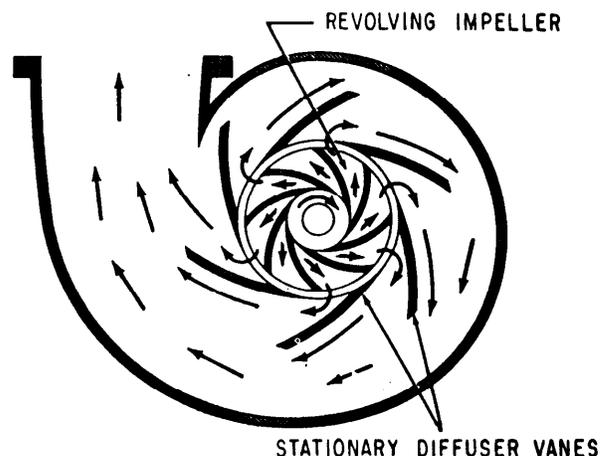

Figure 5-3.—Diffuser (volute turbine) pump.
**DIFFUSER PUMP.**—In the diffuser pump, shown in figure 5-3, the liquid leaving the impeller is first slowed down by the stationary diffuser vanes which surround the impeller. The liquid is forced through gradually widening passages in the diffuser ring (not shown) and into the volute. Since both the diffuser vanes and the volute reduce the velocity of the liquid, there is an almost complete conversion of kinetic energy to potential energy.